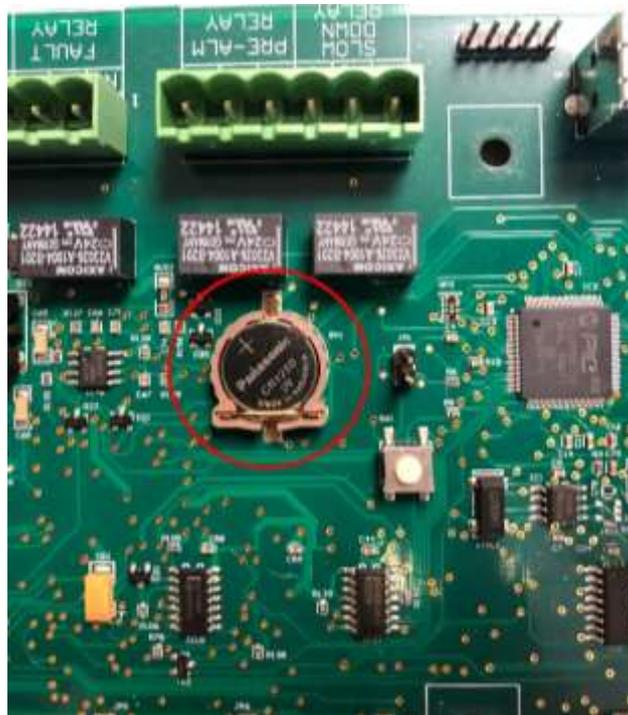

Figure 177 Control Unit Battery Orientation
4. Note the orientation the existing battery, see Figure 177 (the positive terminal is facing outwards)